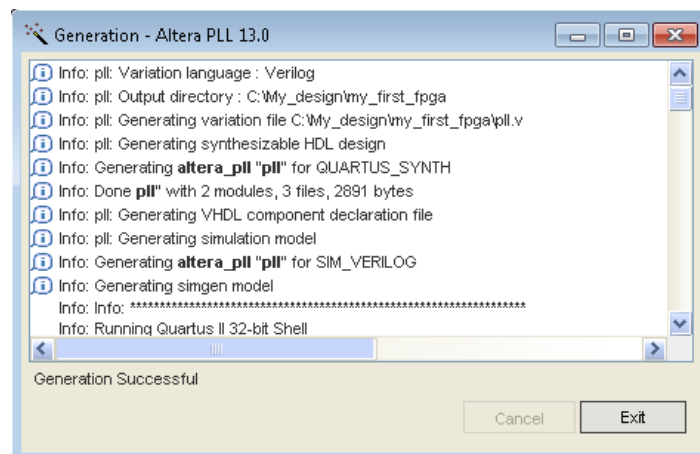

Figure 3-13 PLL Generation
8. Click Finish . It leads to Figure 3-13. Click Exit.